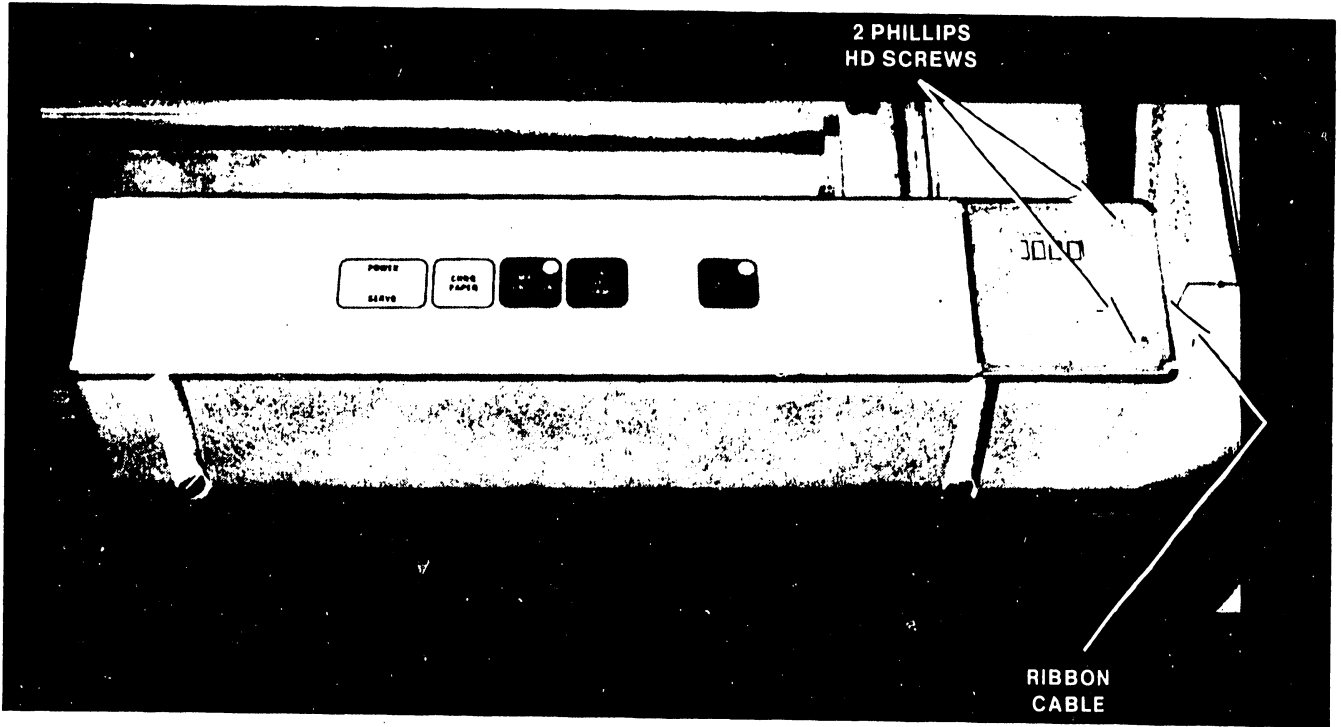

Figure 5-16 Keyboard Model 2233/2235 (P/N 271-1223)
5.4.6 Keyboard R & R P/N (271-1223, 271-1224) See Figures 5-16, 5-17.